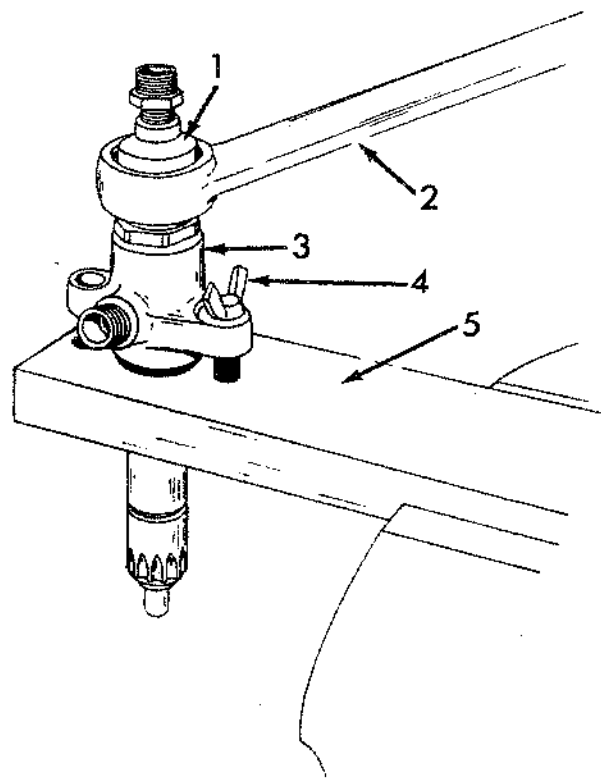

Fig. 21 -- Removing Nozzle Cap Nut
b. Clamp nozzleholder body in a holding fixture similar to the one illustrated in Fig. 21.